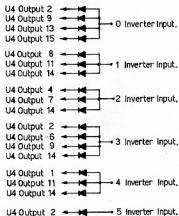

FIG 5, DIODE CONNECTIONS FOR DE VK2AHM.
- (b) Figure 5 — Unit B — Page 18 — AR August 1975:
in Fig 5.